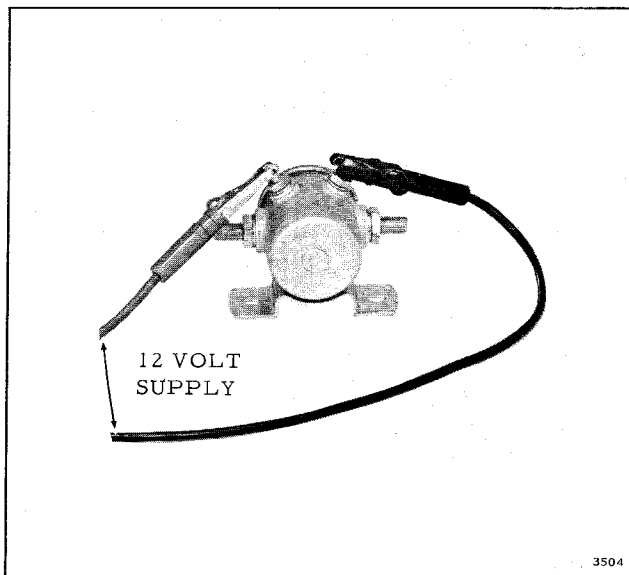

Figure 7-12. Checking Solenoid Coil
g. The starter solenoid is a sealed unit and is not serviced separately. To test the solenoid, remove the junction box cover and operate the starter switch, or apply 12 volts from a separate battery. See Figure 7-12. The solenoid plunger should give an audible click as it operates. The solenoid must be replaced as a unit if defective.